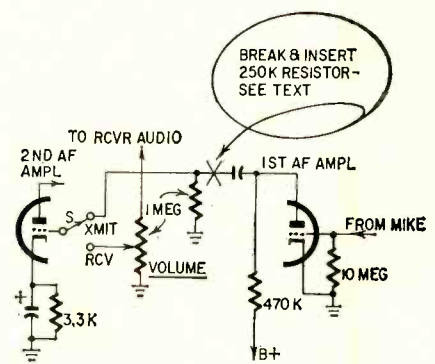

Fig. 5—How to cut gain to reduce modulation, if necessary.
With S1 in the RF position, a fluctuating meter reading when the transmitter is being modulated indicates carrier shift that is usually caused by a nonlinear distorted modulation amplifier. Under normal modulation, the carrier reading (RF) should remain steady for a modulated signal. At modulation levels approaching 100%, there will be some carrier shift in most transceivers. Modulation level should be set at a level that never exceeds 95%. If the modulation is over 100%, usually all that is necessary is to reduce the gain in the speech amplifier to a level that allows a maximum of 95% modulation. Because of the varying sensitivity of different microphones, it is easy for a change of microphones on a transceiver to alter the modulation level and force it over the 100% point. A 250,000-ohm resistor in series with the coupling capacitor to the grid of the second audio stage in the speech amplifier is usually all that is needed to cut the gain to an acceptable level (Fig. 5). The added resistor may be any value necessary to reduce the level to the point where there is no blasting or overloading. Try values between 50,000 and 250,000 ohms. END